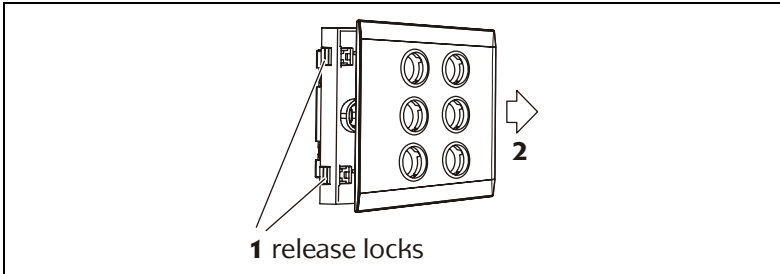

Figure 5 – Removing the facia on an 'E' Series Ulti Saturn unit
- 2) Gently pull the facia off the grid plate (refer to Figure 5).